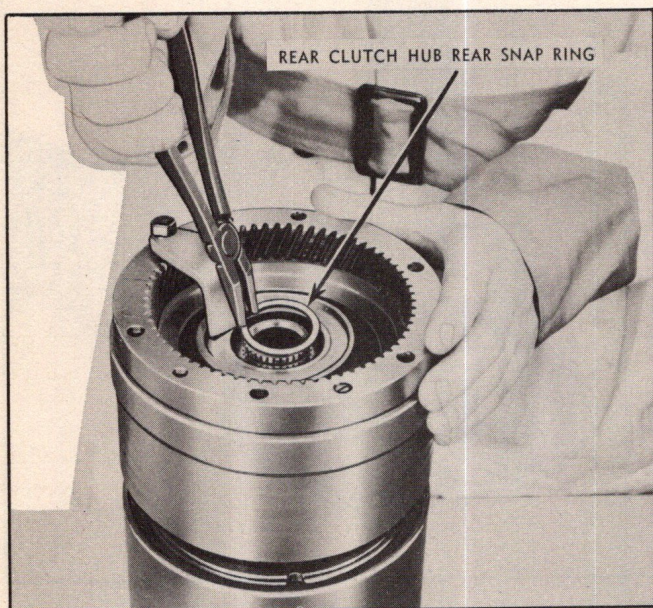

Fig. 255—Installing Rear Clutch Hub Rear Snap Ring
19. Install rear clutch hub rear snap ring (Fig. 255).